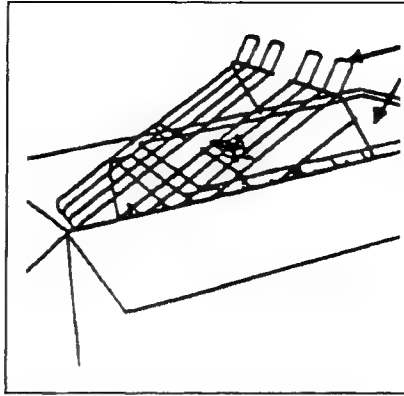

Figure 2-8. Remove Wire Basket
- c. Remove the wire paper basket and take off the cardboard sheet, with the screws attached (Figure 2-8).